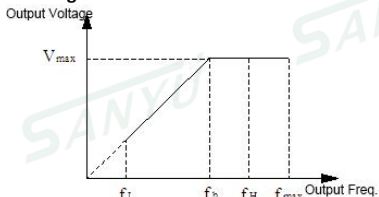

Figure F0-1 Voltage and Frequency
figure; the maximum output voltage V_{max} is the output voltage when output basic running frequency, usually rated voltage of the motor, as V_{max} showed in the following figure; f_H , f_L are defined as upper limit frequency and lower limit frequency separately, as showed in figure F0-1:
4. The maximum output frequency, upper limit frequency and lower limit frequency have relations as showed in figure F0-1, please notice the numerical value order when setting.